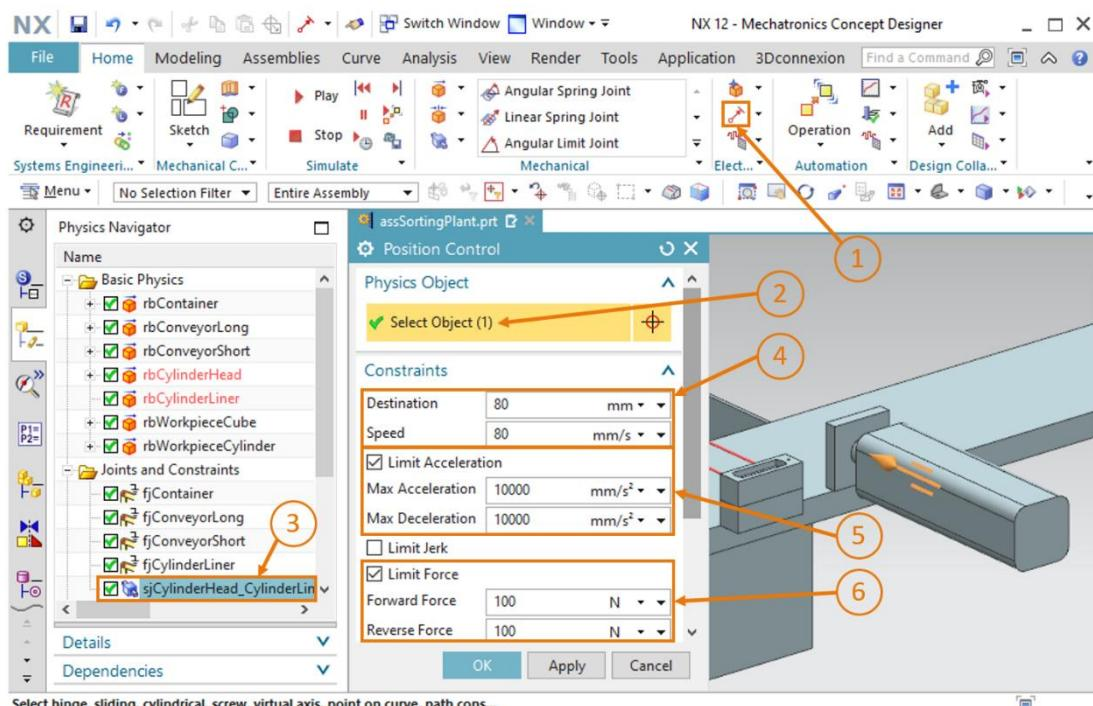

Figure 38: Creating a position control for extending of the ejector
- Navigate to the "Electrical" menu group and select the "**Position Control**" command from the drop-down menu for actuators (see Figure 38, step 1). The "Position Control" dialog window opens. In the "**Physics Object**" group, select the **sliding joint** you created in Chapter 7.5 (see Figure 38, steps 2 + 3). Specify the following values for the parameters in the "Constraints" group:
- A **Destination** of **80 mm** and a **Speed** of **80 mm/s** (see Figure 38, step 4)
- Activate "**Limit Acceleration**" with a value of **10000 mm/s²** for the maximum acceleration and maximum deceleration (see Figure 38, step 5)
- Activate "**Limit Force**" with a value of **100 N** for the forward force and reverse force (see Figure 38, step 6)